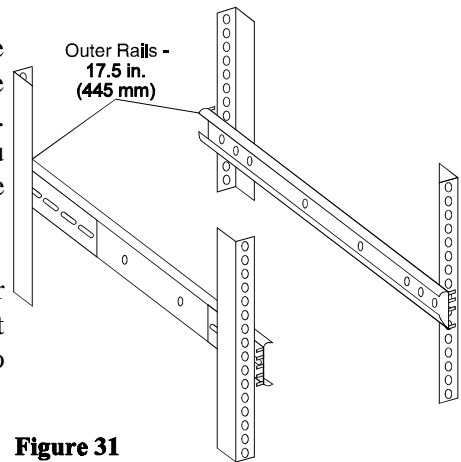

Figure 31
Attach the brackets on the outer rails to the front and rear of the rack as shown in Figure 31 below. Use bolts or screws that fit the holes in your rack.
- ▶ To make sure the UPS' front panel will be flush with the front of your rack, use a rack with front supports (uprights) that are "L" channels, and mount the rail on the front of the "L" channel as shown in Figure 31.
Note: When the rails are attached to the rack, the distance from the outside edge of one rail to the outside edge of the other must be 17.5 inches (445 mm). (See Figure 31.) If this distance is not correct, you cannot mount the FERRUPS properly, and the bearings and carriers may be damaged.